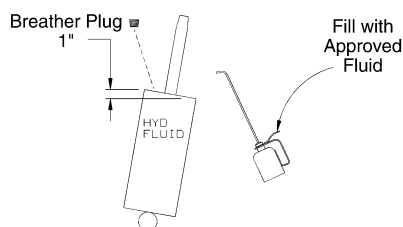

Figure 26 - Filling the 7" Cylinder
3. Remove the plastic breather plug. Fill the cylinder to within 1" to 1-3/16" of the access hole in the top. Be careful no dirt falls in through the hole (figure 26).